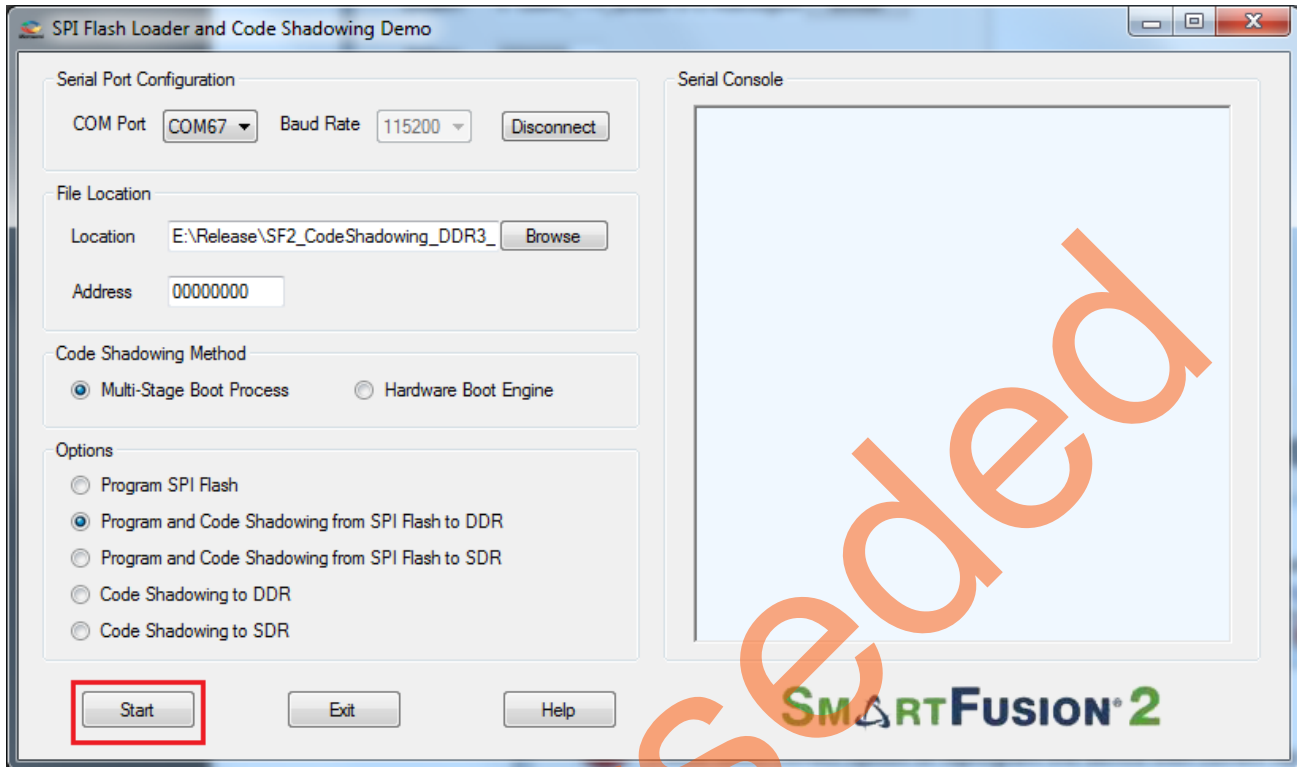

Figure 10. Starting the Demo
9. Click **Start** as shown in Figure 10. to load the executable image into SPI flash and code shadowing from DDR memory.